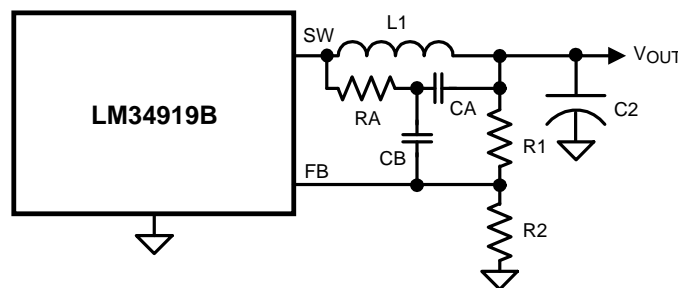

Figure 33. Minimum Output Ripple Using Ripple Injection
**b) Minimum ripple configuration:** The circuit of Figure 33 provides minimum ripple at  $V_{OUT}$ , determined primarily by  $C2$ 's characteristics and the inductor's ripple current since  $R3$  is removed.  $RA$  and  $CA$  are chosen to generate a sawtooth waveform at their junction, and that voltage is AC-coupled to the FB pin via  $CB$ . To determine the values for  $RA$ ,  $CA$  and  $CB$ , use the following procedure: